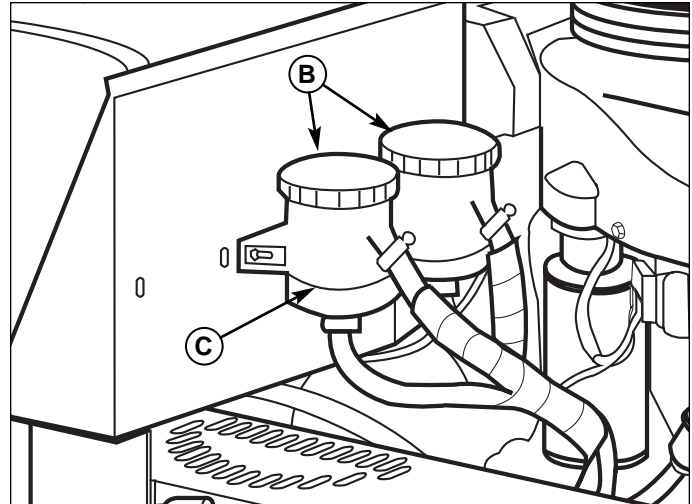

Figure 31. Oil Reservoirs
- Keep oil level in the reservoirs (A, Figure 31) at the "FULL" line (B). Extra oil in the reservoir will not benefit the machine.
3. Run engine for 15 minutes. Watch the oil level in the reservoirs. Add oil to the "FULL" line (B, Figure 31) as necessary.